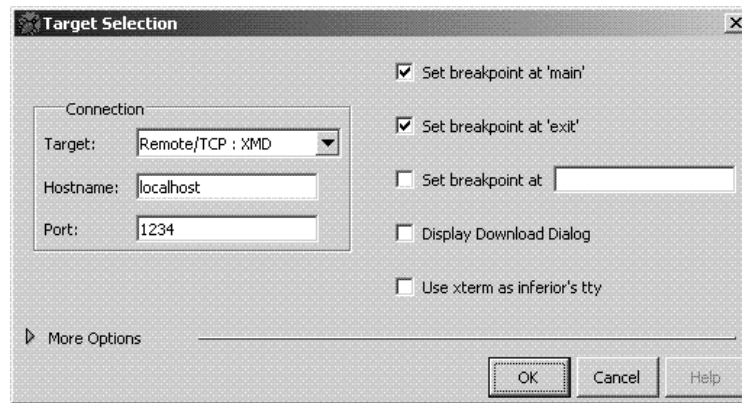

Figure 31: GDB Target Selection
- In GDB, select **File** → **Target Settings** to display the Target Selection dialog box as shown in Figure 31.